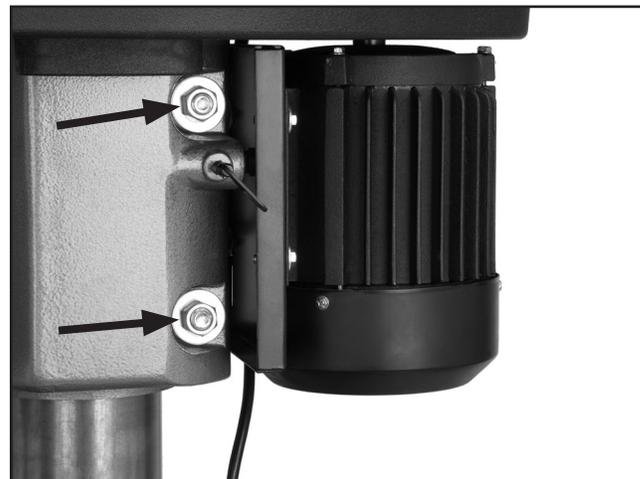

Figure 27. Head locking nuts.
1. Loosen the two head locking nuts located on the right side of the head near the back. Use the lug wrench provided (**Figure 27**).